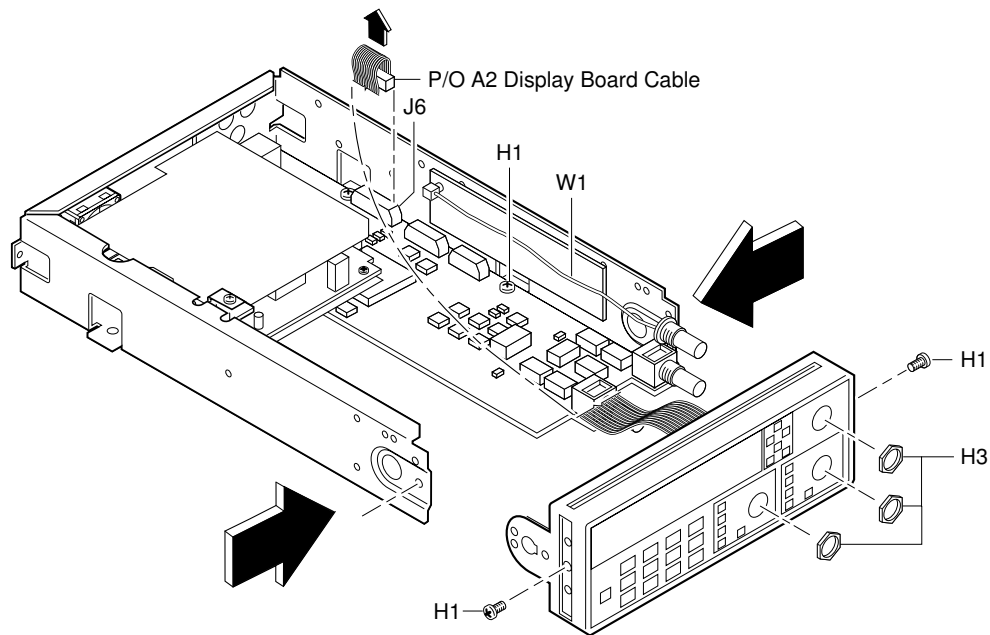

Figure 3-5. Front Bezel Removal
- 4 Disconnect the front bezel flat-ribbon cable (which is actually A2 Display Board’s cable) from J6 of A1 Motherboard Assembly as shown in Figure 3-5.**
- 5 Remove the BNC nuts (H3), shown in Figure 3-5, from the front panel using the 14-mm deep-socket spin tight.
- 6 For Counters with the optional 1.5 GHz or 3.0 GHz channel (Option 015 or 030), pull cable W1 out of the front bezel as shown in Figure 3-5. For the optional 5.0 or 12.4 GHz channel, remove knurled nut.
- 7 Remove the two screws (H1), located in the sides of the front bezel, using the TORX 15 screwdriver as shown in Figure 3-5.**
- 8 Loosen the screw (H1), shown in Figure 3-5, that helps secure A1 Motherboard Assembly to the chassis to make step 9 (the following step) easier.**